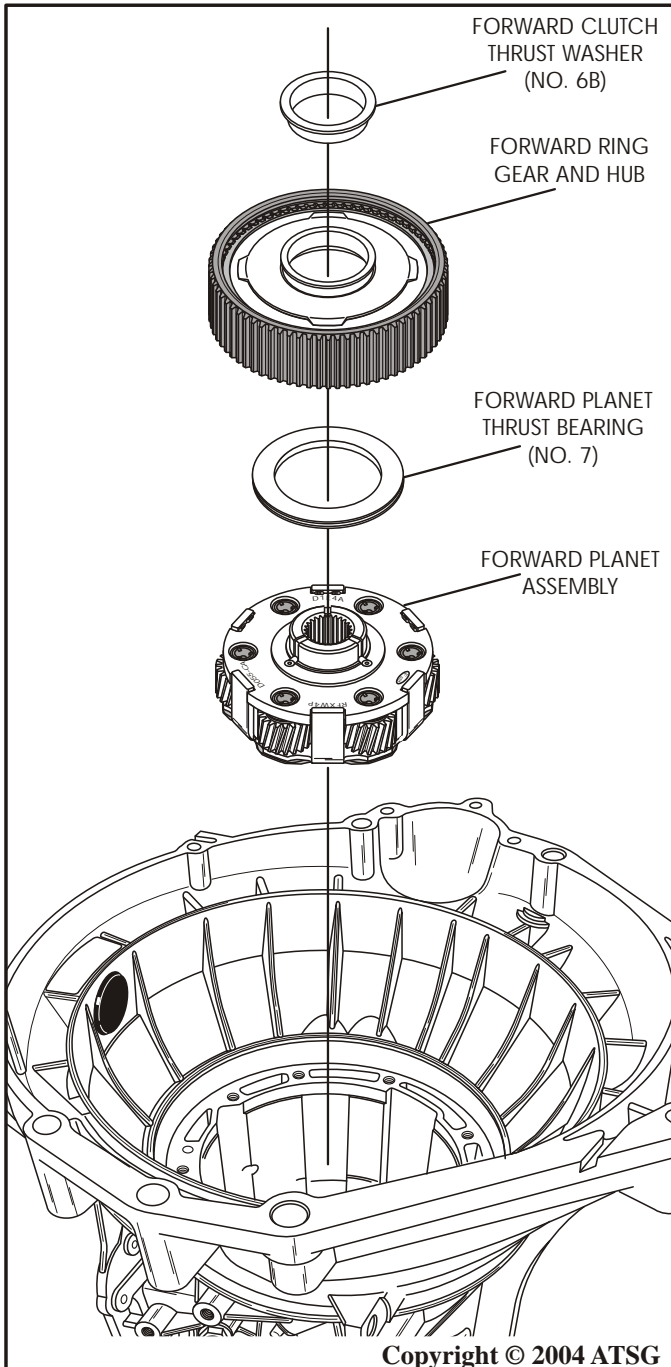

Figure 45
45. Remove forward ring gear and hub assembly along with the forward clutch (No. 6B) thrust washer, as shown in Figure 45.
46. Remove and tag for I.D. the forward planet (No. 7) thrust bearing (See Figure 45).
47. Remove the forward planetary carrier assembly as shown in Figure 45, and set aside for the component rebuild section.